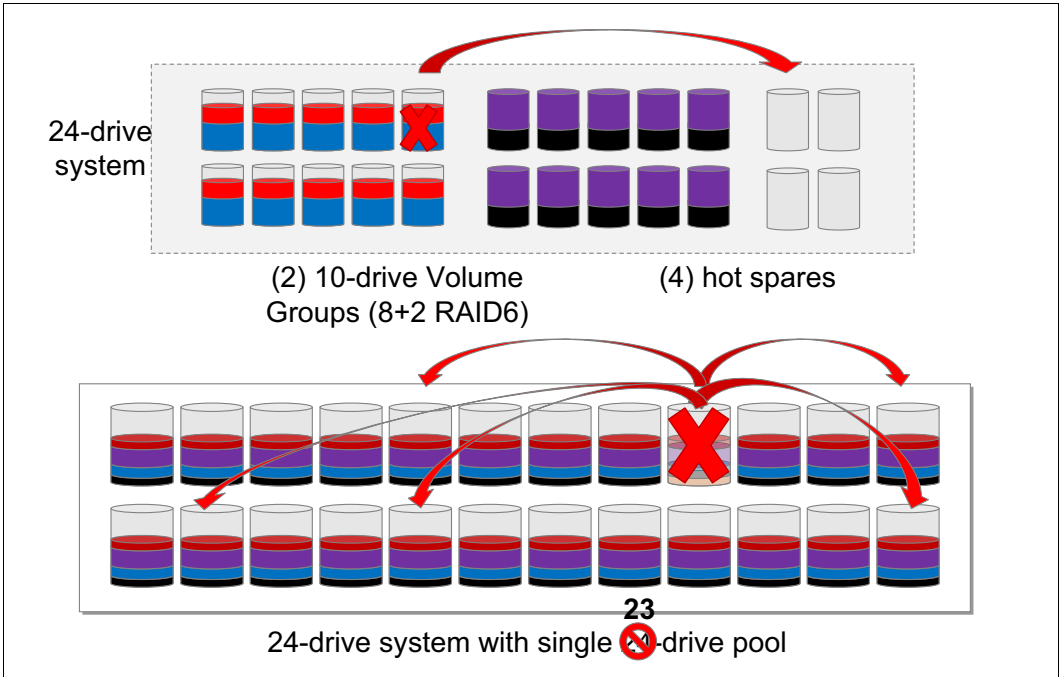

Figure 8-7 Difference between drive reconstruction on an array and a disk pool
- ▶ **Faster reconstruction of data:** Disk pools do not use hot spare drives for data protection like an array does. Instead of hot spare drives, disk pools use spare capacity within each drive that comprises the disk pool, as shown in Figure 8-7.